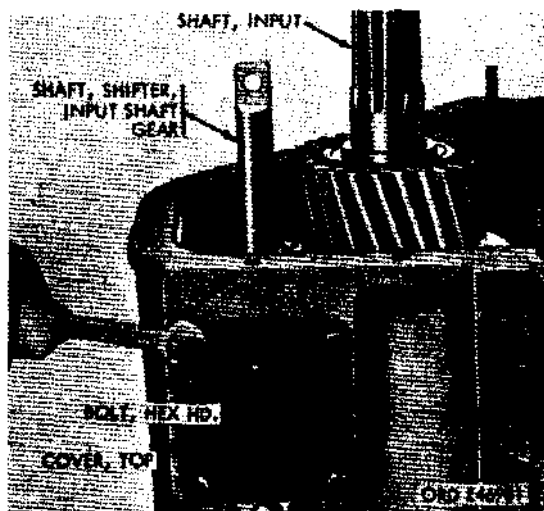

Figure 222. Removing top cover
- (4) Remove input shaft gear, shifter shaft, shifter fork, and input shaft assembly.
- (a) Remove the four top cover hex-head bolts (fig. 222).